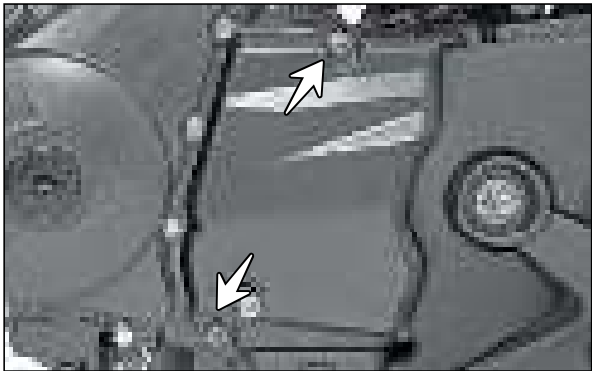

Fig. 3.106
- Remove CRR pan head screw (M6x20 - 2 Nos.) from the cover engine sprocket and take out cover engine sprocket. (Fig. 3.106)